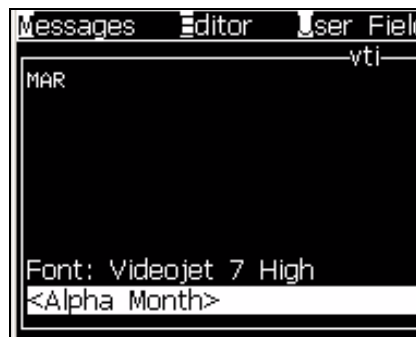

Figure 5-19: User Field - Alpha Month
- 2 Select the user field that you require and press the *Enter* key. For example, the *Alpha Month* is shown in the Figure 5-19.